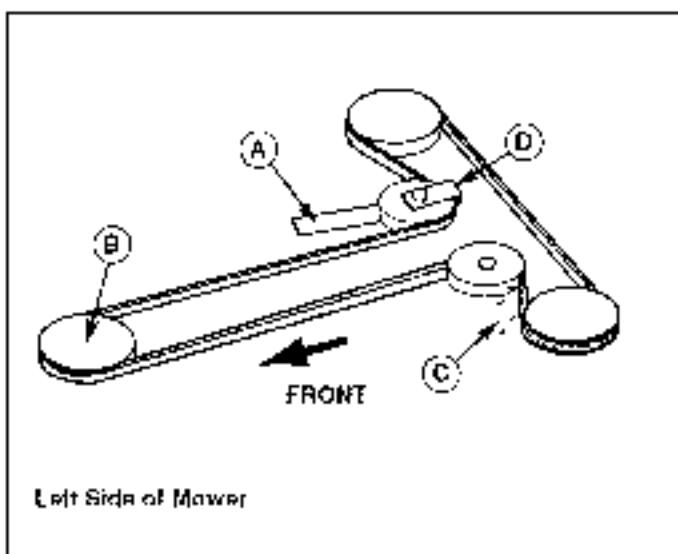

Figure 28. Typical Mower Belt Routing - Two Blade Decks
- Push the idler pulley arm (A, Figure 28) to relieve belt tension. Drop the belt from the PTO (electric clutch) pulley (B).